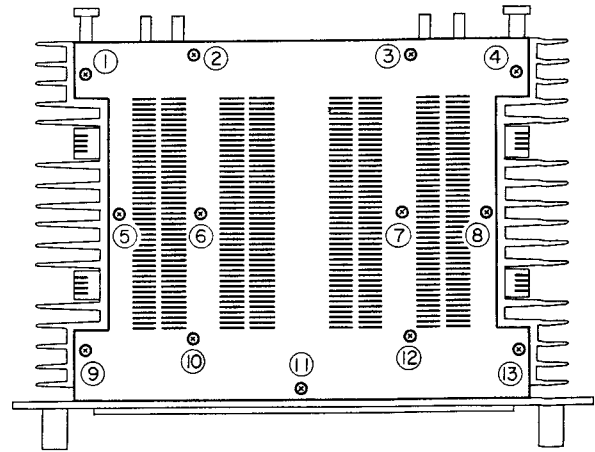

Fig.1
(1) Remove top cover by unscrewing screws (1) ~ (13) shown in Fig. 1.